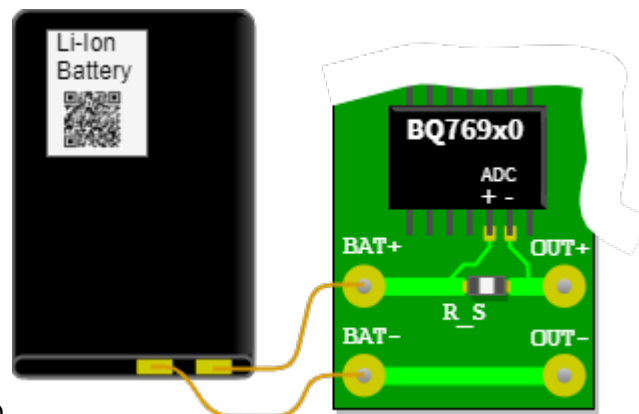

Fig. 32: Sketch of the setup
- The battery monitor BQ769x0 measures the charge and discharge currents of a lithium-ion battery by means of the voltage across a measuring resistor (shunt). In figure 32 the analog-to-digital converter (ADC) of this chip is connected to the shunt R_S via the circuit board. Through the shunt the discharge current flows from the battery connection $BAT+$ to $OUT+$ and via $OUT-$ back to $BAT-$. The shunt shall be designed so that the bipolar measurement signals have a voltage level in the range of -0.20 V to $+0.20 \text{ V}$. The analog-to-digital converter has a resolution of $15 \mu\text{V}$. The currents can be used to count the charge in the battery to determine the state of charge (SOC).